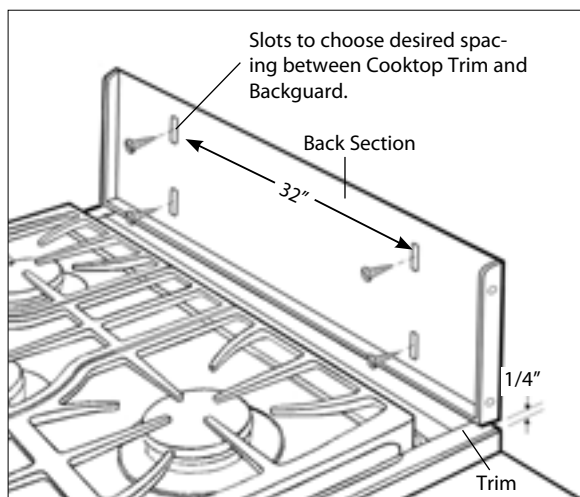

Fig.07
2. After unpacking all backguard system parts, locate the Back Section 1/4" above and centered over the Trim attached to the cooktop.* Secure Back Section to wall with the appropriate fasteners (not supplied)(fig. 07).